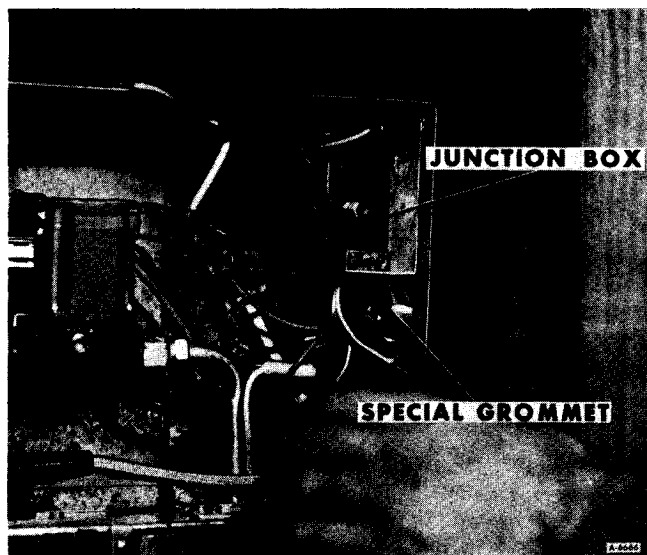

Figure 7 – Removing Wiring from Junction Box
6. Inside the junction box remove the wire nuts retaining wiring harness to furnace wiring. Carefully, separate wires in junction box. Using pliers, apply light pressure on special grommet. Pull grommet and furnace wiring from junction box (Figure 7).
3. Install furnace wiring and special grommet into junction box (Figure 7).